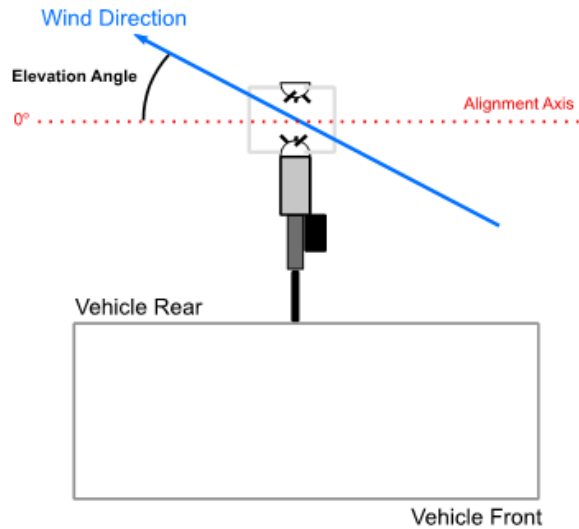

Figure 102 Elevation Angle and Wind Direction
- Elevation – elevation angle of the wind direction (see Figure 102). The elevation angle is positive if the wind direction is pointing upward and negative for a downward wind direction.